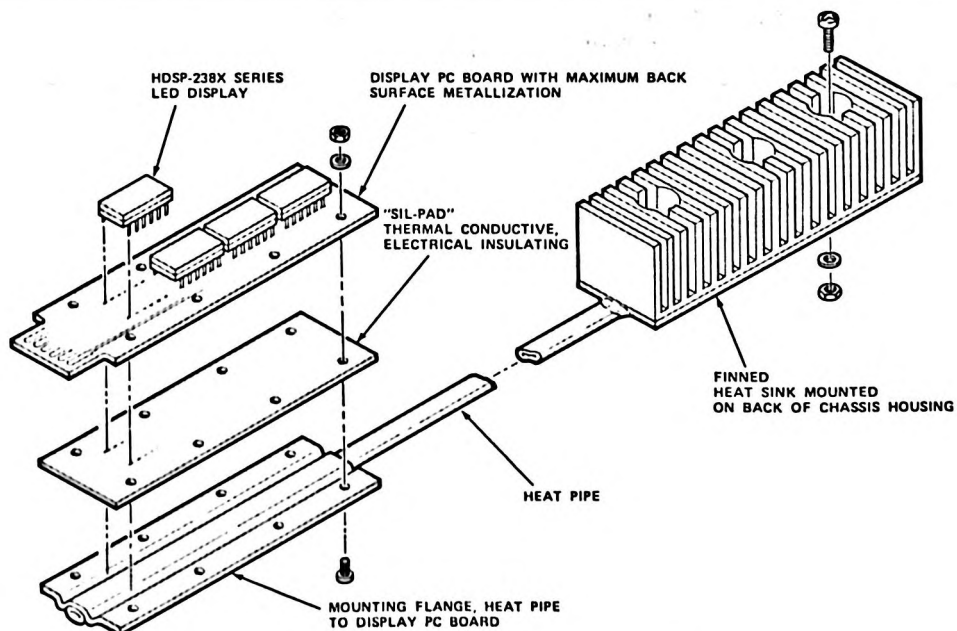

Figure 10. Using a Heat Pipe to Transfer Display Generated Heat to an Externally Mounted Finned Heat Sink.
4. Utilize a heat pipe to transfer the heat from a maximum metalized PC board to a finned heat sink mounted on the back of the assembly housing, as shown in Figure 10.